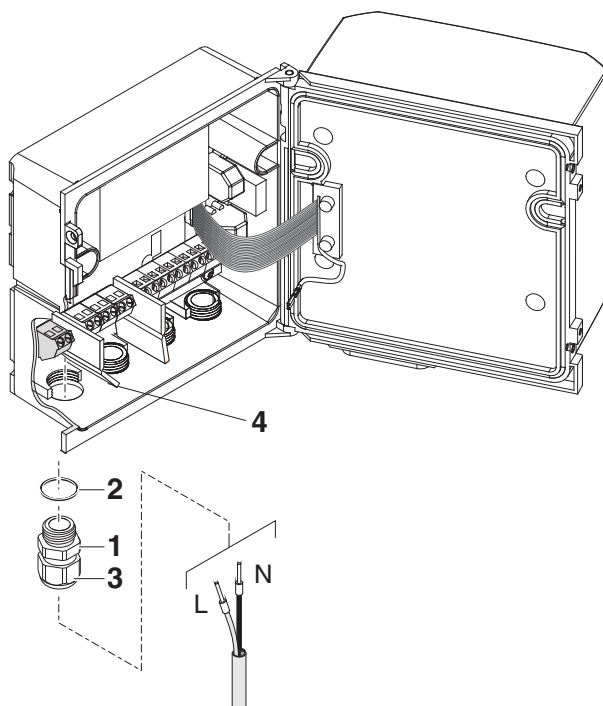

Fig. 3-16 Inserting the 24V AC/DC line
- 5 Screw a cable gland (pos. 1 in Fig. 3-16) with sealing ring (pos. 2) into the enclosure below the 24 V AC/DC connection.
- 6 Loosen the coupling ring (pos. 3).
- 7 Feed the 24 V AC/DC line through the cable gland into the enclosure. When doing so bend the flexible divider (pos. 4) to the right.
- 9 Tighten the cap nut (pos. 3 in Fig. 3-16).